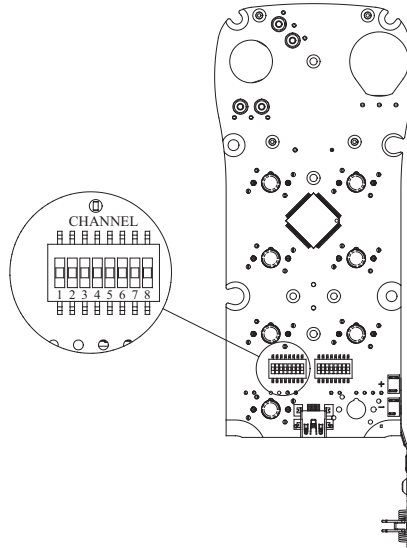
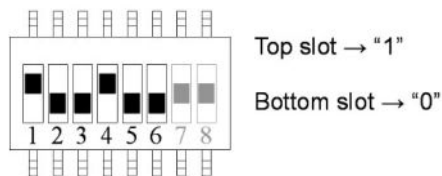

Fig. 7
Fig. 8
Set the transmitter channel by adjusting the channel dipswitch located on the backside of the transmitter encoder board (see Fig. 7). Only the first six (6) positions are used for channel programming (see Fig. 8). The system channels table in **Section 5 on page 37** illustrates which dipswitch setting corresponds to which channel. Once the transmitter channel is altered, be sure to change the receiver channel as well. The channel on both the transmitter and the receiver must be identical in order for the system to work. To change the receiver channel, see **Section 4.2.1 on page 28**.